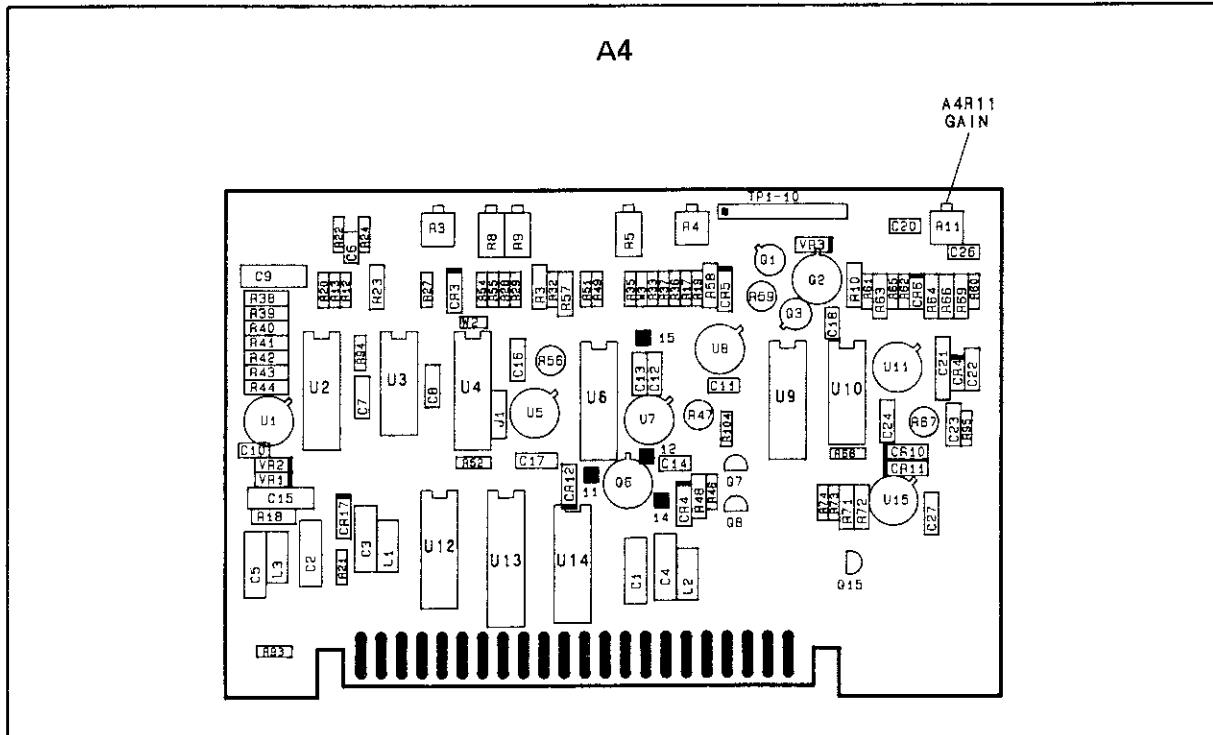

Figure 5-19. ALC Gain Adjustment Location
5. Note the point on the oscilloscope where RF power is switched on. Adjust A4R11 (GAIN) (Figure 5-19) clockwise for maximum gain without overshoot when the RF power is switched on. Also verify that there are no oscillations during forward sweep and that the UNLEVELED lamp is off.